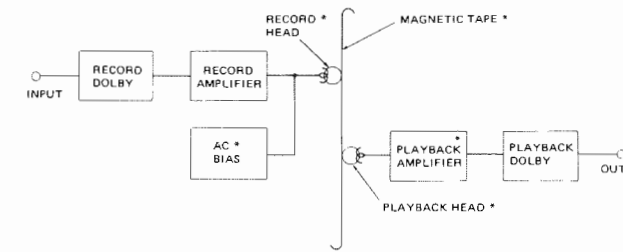

Figure 2
1. Principles of the Dolby NR System (Refer to Figure 2.)
Figure 2 shows the block diagram of a tape recorder incorporating a Dolby NR circuit. "Hiss" noise (made up of predominantly high frequencies) is introduced into the system at the points noted with * (AC bias, record head, magnetic tape, playback head and playback amplifier).